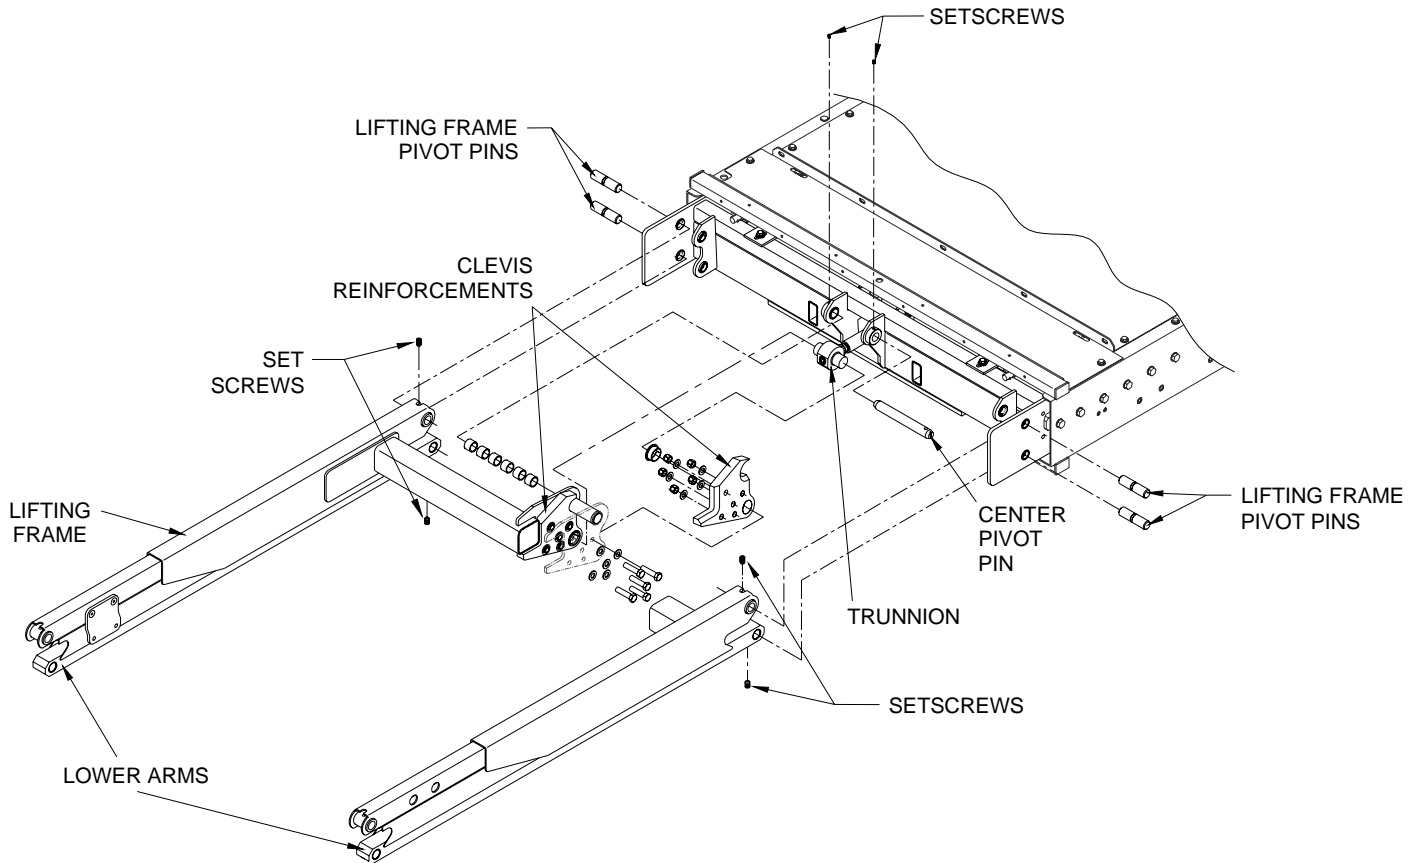

FIGURE 4-13: LIFTING FRAME COMPONENTS
- c. Refer to **Figure 4-13**. Remove four setscrews securing lifting frame pivot pins. Remove two setscrews securing center pivot pin.